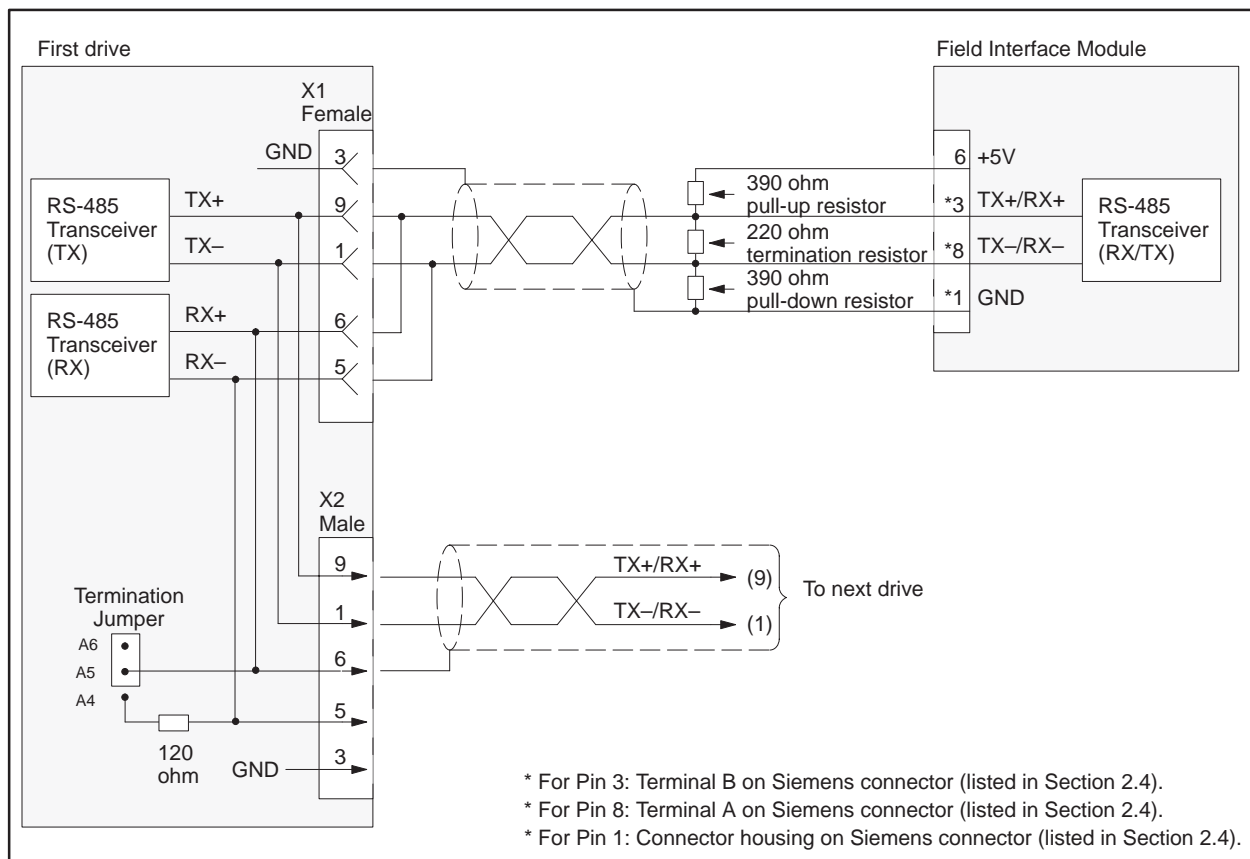
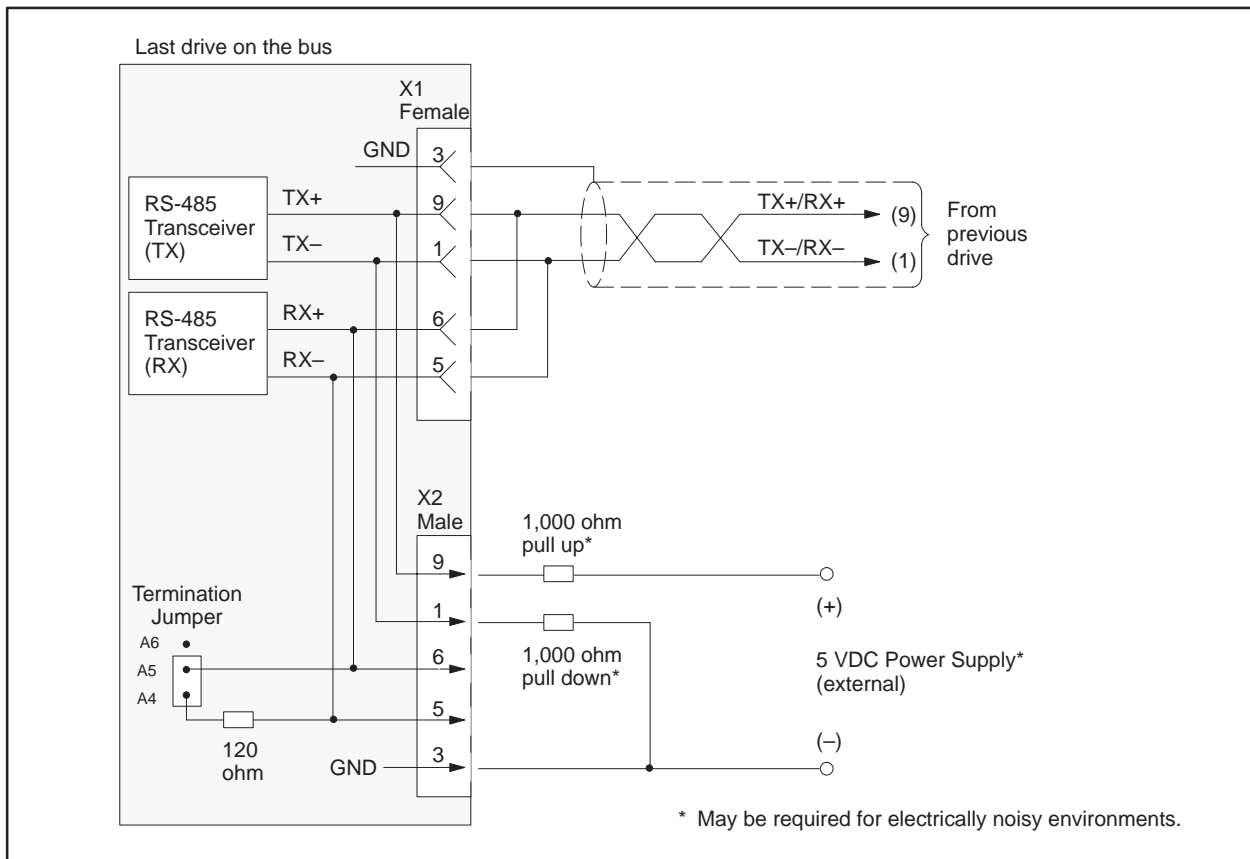

Figure 3-33 Z1005 Wiring: All Drives Except at End of Bus
Figure 3-34 Z1005 Wiring: Drive at End of Bus
- A4 Figure 3-33 and Figure 3-34 show the correct position for this jumper.
- A5 Figure 3-33 and Figure 3-34 show the correct position for this jumper.
- A6 Figure 3-33 and Figure 3-34 show the correct position for this jumper.
Figure 3-33 shows the wiring for all drives except the end of the bus for the SIMOREG Z1005 third generation Digital Interface Board.
Figure 3-34 shows the wiring for the drive at the end of the bus for the SIMOREG Z1005 third generation Digital Interface Board.